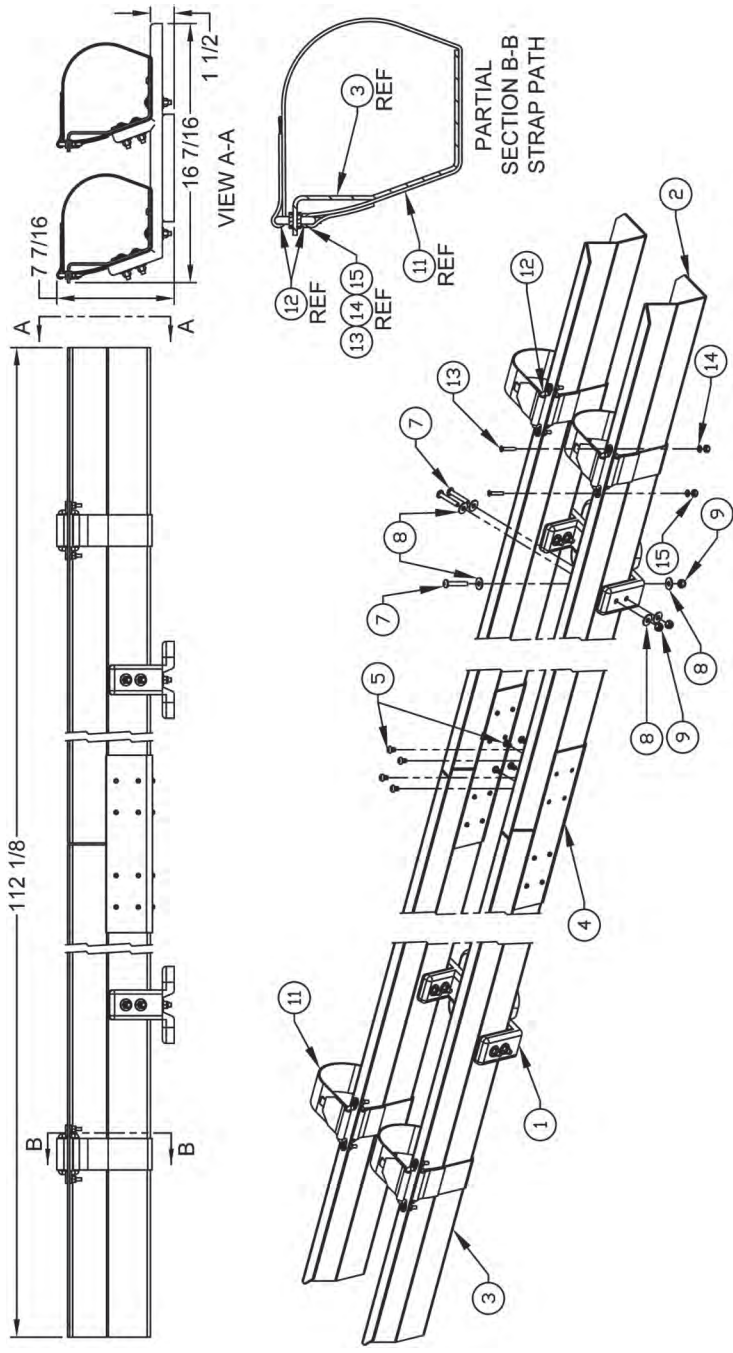

FIGURE 4
- D. HHS-TM-2-ST: Horizontal Hard Suction Mounting Kit with (2) 10' Split Trays. (Figure 4)